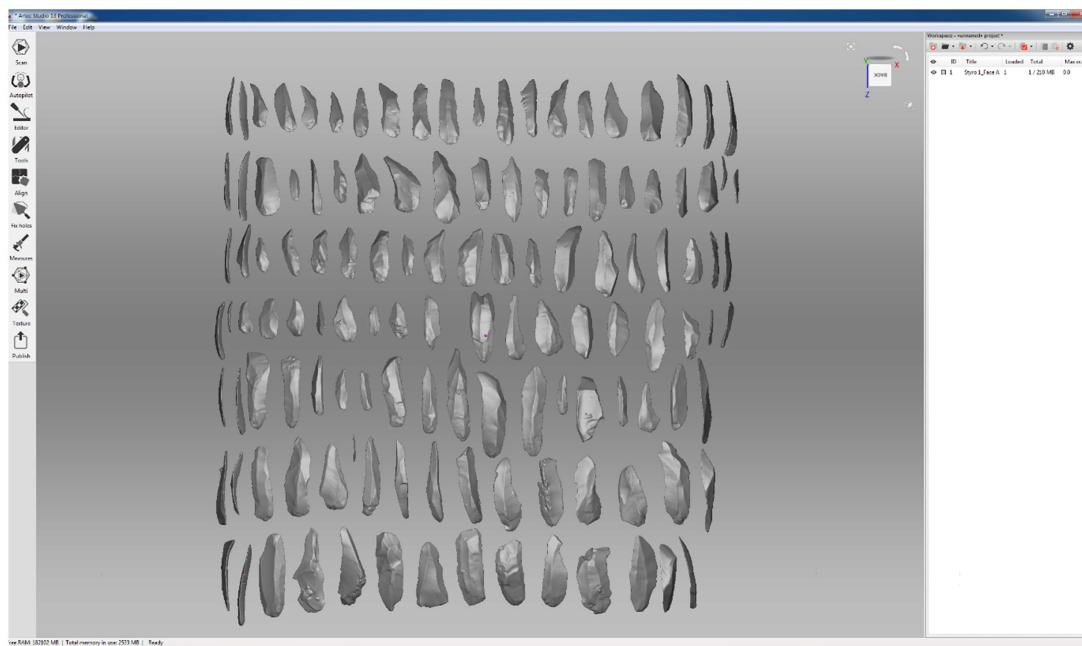

Fig. 27: Isolated and cleaned Face A.
30 Save the isolated and cleaned Face (Fig. 27).
34.1 Rotate the model with the left mouse cursor in the 3D View Panel as shown in Fig. 27. Remember to position the scan so that their order corresponds to their actual order, i.e., the first artefact in the model must be the first one in the list, so it is placed on the upper left. Also remember to look at the scan from the correct side. The scan can also be oriented using the reference pictures.